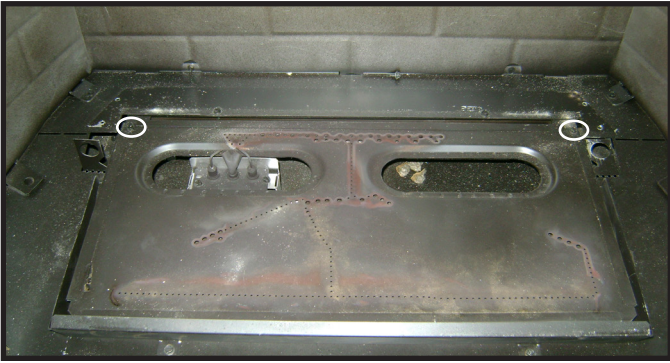

Figure 4.9 Remove Screws from Burner Assembly Rear Corners
- Remove the two screws from the back corners of the burner assembly. See Figure 4.9.